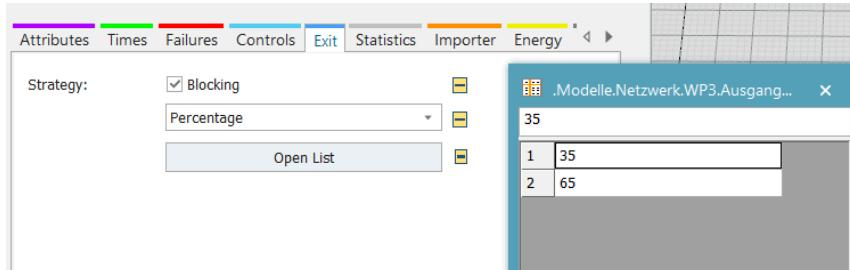

Fig. 9.85 Exit behavior WP3
- WP3 and WP6: set the percentage of rework as the exit strategy “percentage,” for example, for WP3, as shown in Fig. 9.85